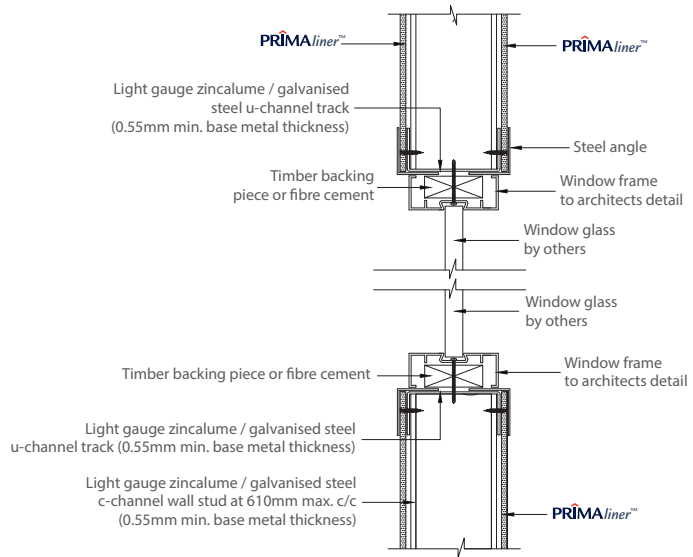

Figure 6: Typical Window Frame Installation Details
- a. Use U stud for horizontal (top & bottom) and C stud for vertical (left & right) window stud frame. Refer to Figure 6 for typical window frame installation details.